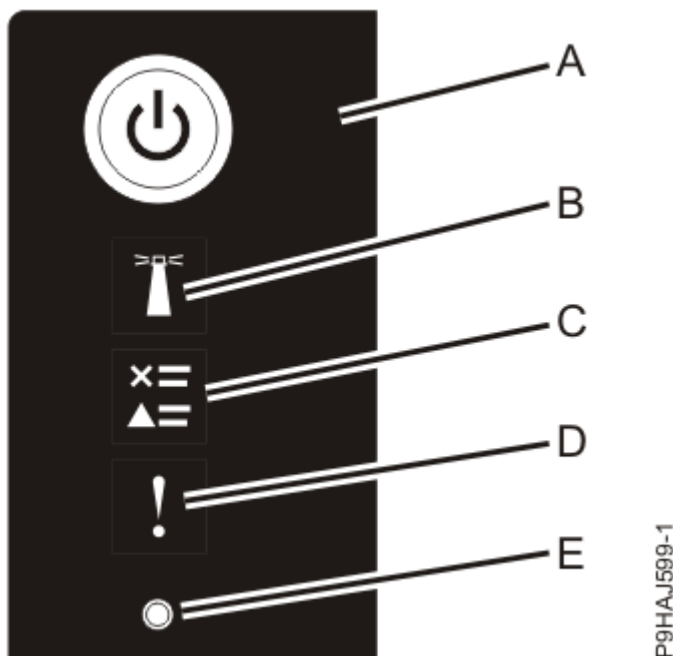

Figure 28: Control panel LEDs
3. Press the power button **(A)** on the control panel, as shown in Figure 28 on page 33.